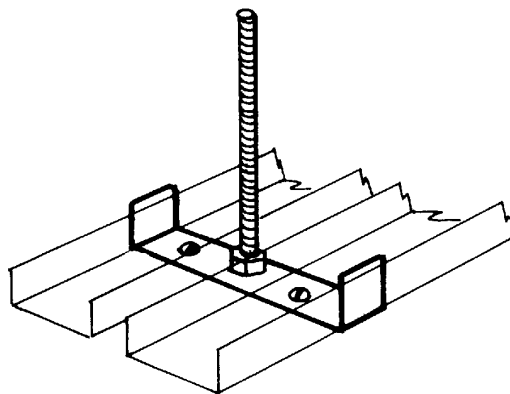

Figure 4.5
4.2.1.5 Double Channel Cable Tray Hanger (See Figure 4.5.)